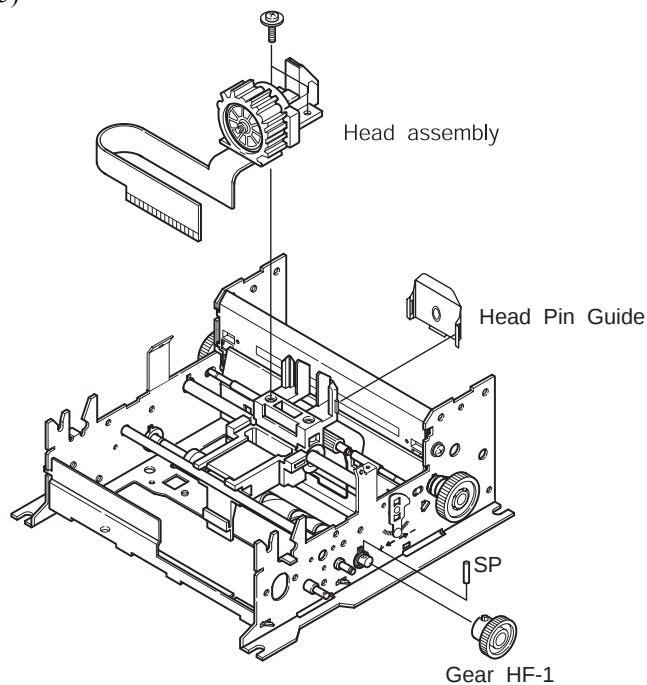

Figure 4-6. Separating Head Feed Block
13. Remove the 2 screws of the Head Assembly. Lever and disassemble the Head Assembly. (Figure 4-6)
14. After remove the screws disassemble the spacer and the Head Pin Guide in the Head Carriage Assembly. (Figure 4-6)
15. After separating the Gear HF-1. remove the SP in the right side hole in the Lead Cam. (Figure 4-6)